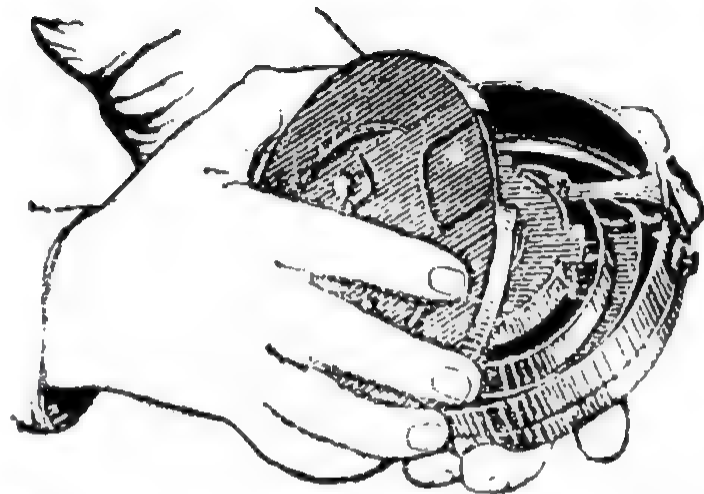

Figure 31. How to remove the magazine lid
1. **Removing the lid** While holding the magazine with your left hand, use your middle finger to push the magazine catch up until it stops, then use the thumb of your right hand to turn the slide about 90 degrees. Then remove the lid while holding the magazine with the left hand (figure 31).